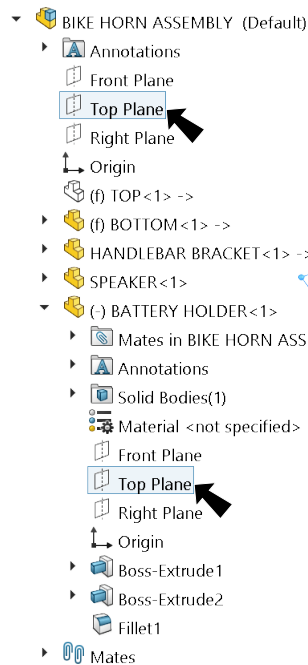

Fig. 27
Step 6. Click **Top Plane**  in flyout Feature Manager design tree in the Feature Manager, expand **BATTERY HOLDER** and click **Top Plane** , **Fig. 27**.